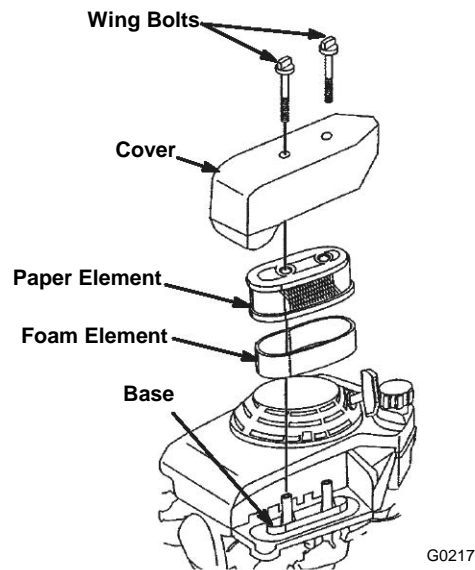

Figure 18
3. Remove the 2 wing bolts that secure the cover (Fig. 18).
5. Remove the foam and paper elements from the base (Fig. 18).
6. Remove the foam element from the paper element (Fig. 18).